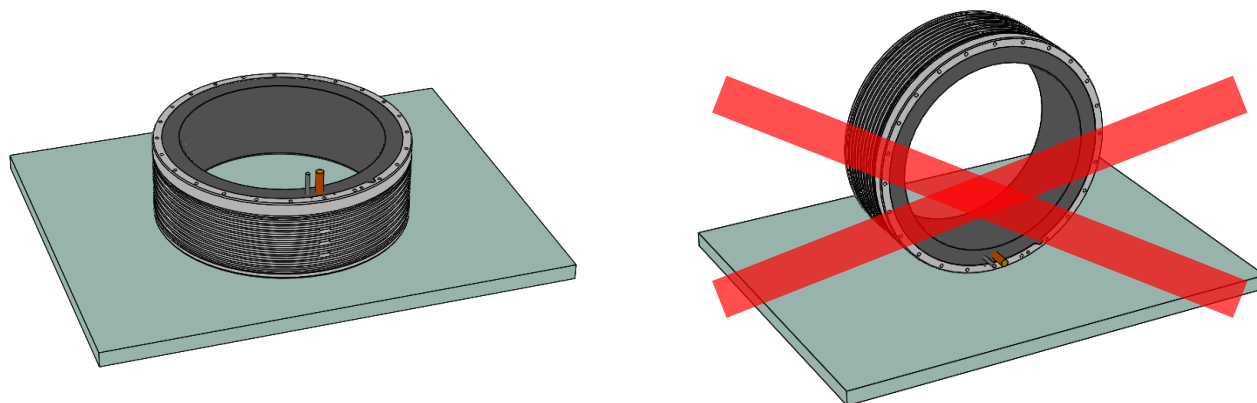

Figure 4.4.1 Schematic diagram of storage outside the package
9. Motors should be stored in the original packages and laid flat. It can be temporarily stored outside the package if sufficient support and protection is provided. Also, the storage environment needs to meet the requirements. Please make sure that the cables must face upwards in case of pinching, as shown in Figure 4.4.1 below.